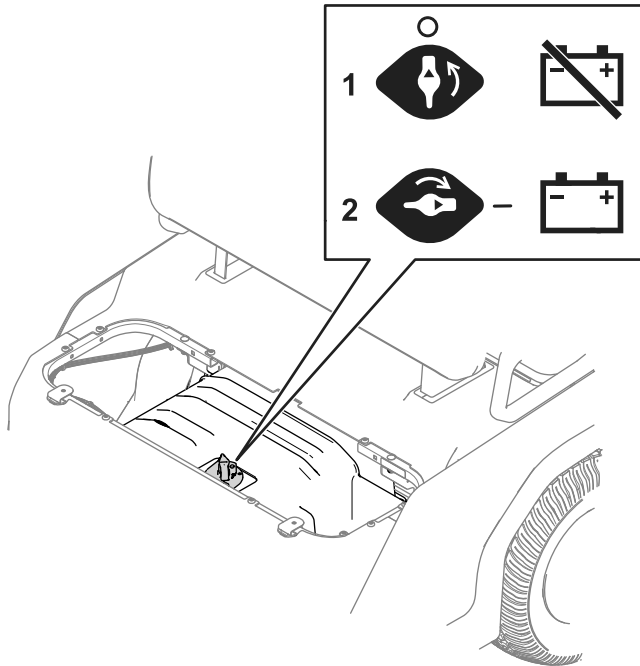

Figure 34
3. Move the battery-disconnect switch to the desired position as shown in Figure 34.